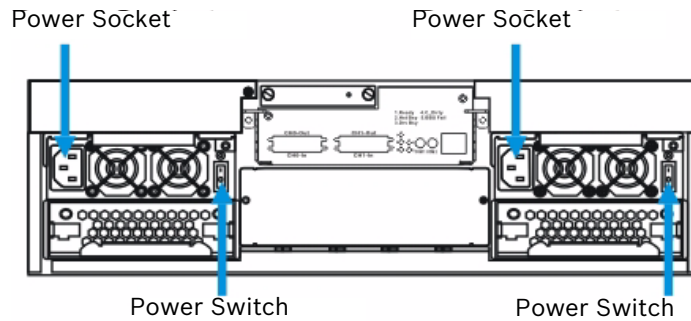

Fig. 6.11 Power Sockets and Power Switches
1. Turn off the PSU. Using the power switch located at the top of the rear panel, directly above the PSU module. (See *Figure 6.11*)
2. Remove the power cable that connects the RAID subsystem to the main power source. The power socket is found on the left side of each power supply module. (See *Figure 6.11*)